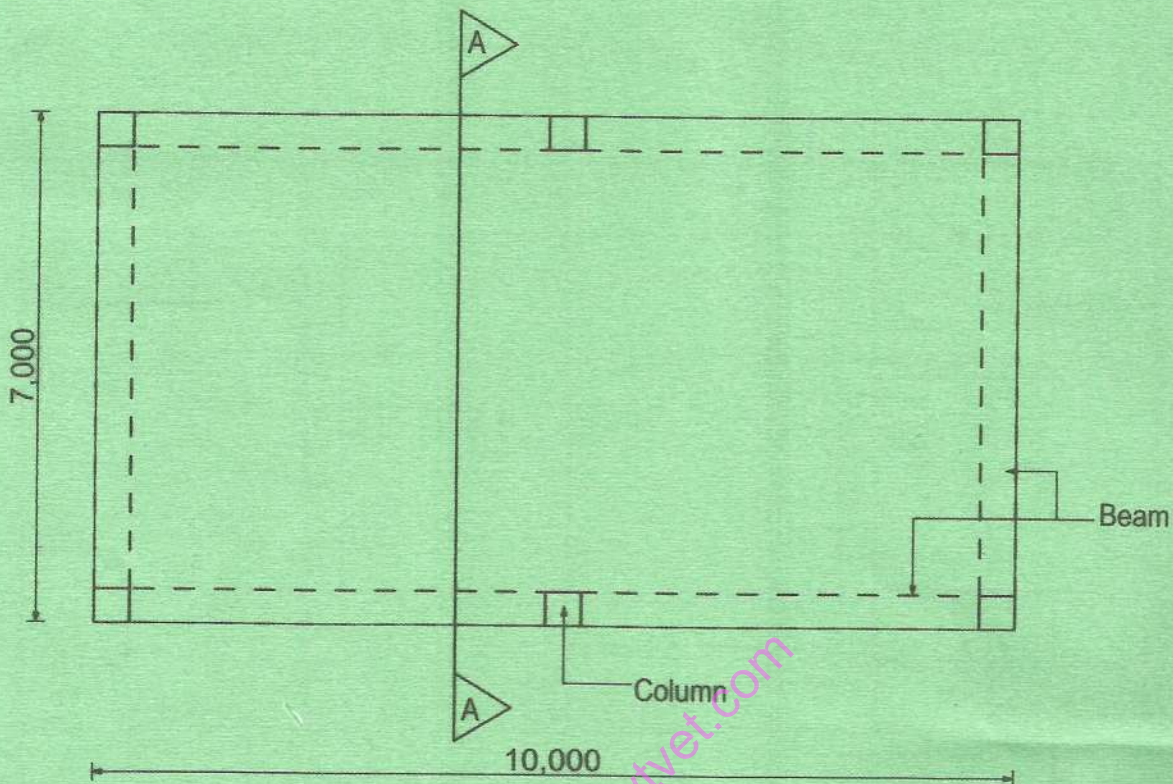

Fig. 2
4. **Figure 2** shows a concrete suspended floor. To a scale of 1:50, draw section A-A using the data given.